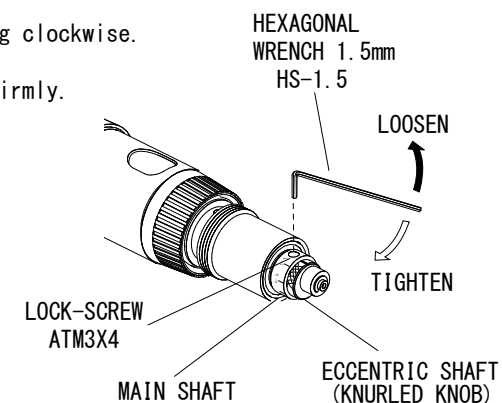

Fig.4
- 2) Loosen the LOCK-SCREW with the hexagonal wrench (HS-1.5). (see fig.4)